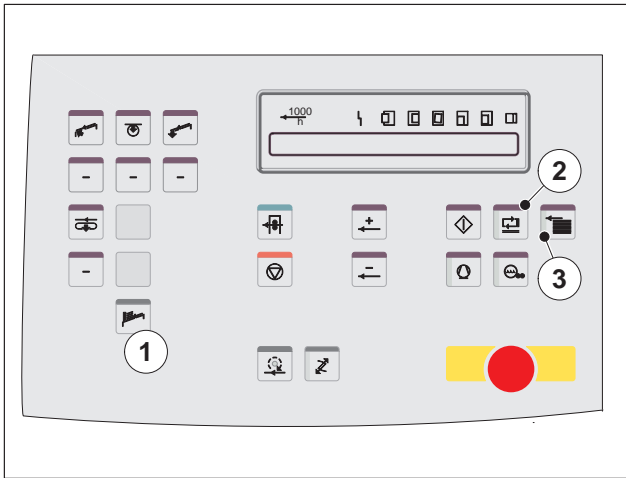

Fig. 58
2. Press the *Clear feeder* button (Fig. 58/1). Sheet travel is switched off. The sheets on the feed table are transported to the printing unit in the direction of the sheet travel. Ratchet pawl and sheet stop finger are closed.
2. Switch on the feeder (Fig. 58/2) and the sheet travel (Fig. 58/3).